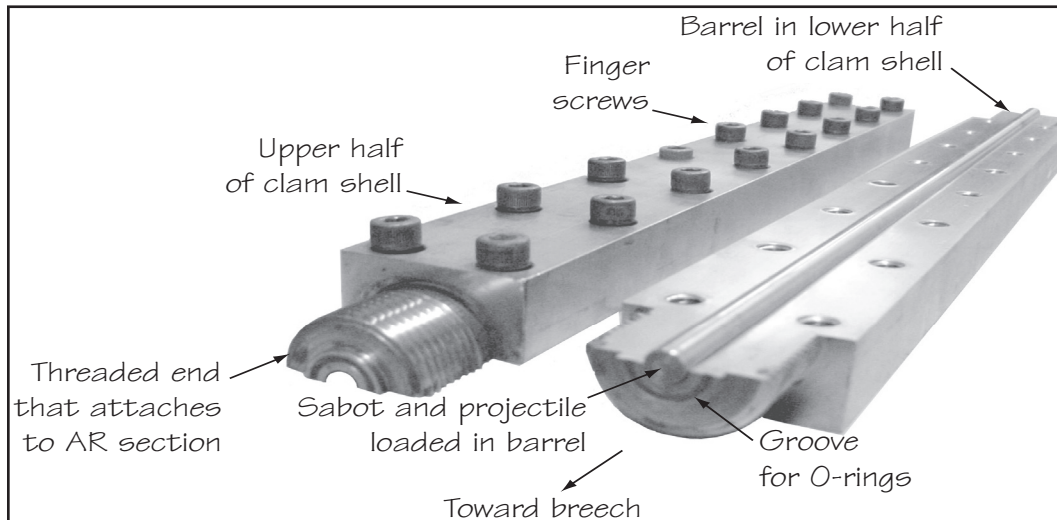

Figure 4.1-6.
4.1.3.3. **Place** the cleaned and loaded barrel into the bottom half of the clam shell (Figure 4.1-6), with the end of the barrel containing the projectile toward end of the clam shell that will attach to the AR section, *i.e.*, the shorter threaded end.